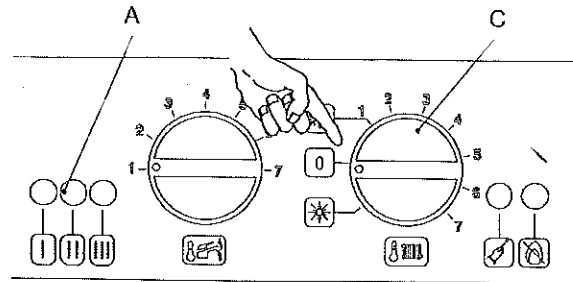

Figure 5.6
- To turn the boiler off set the function selector C to the position shown in the Figure 5.6.